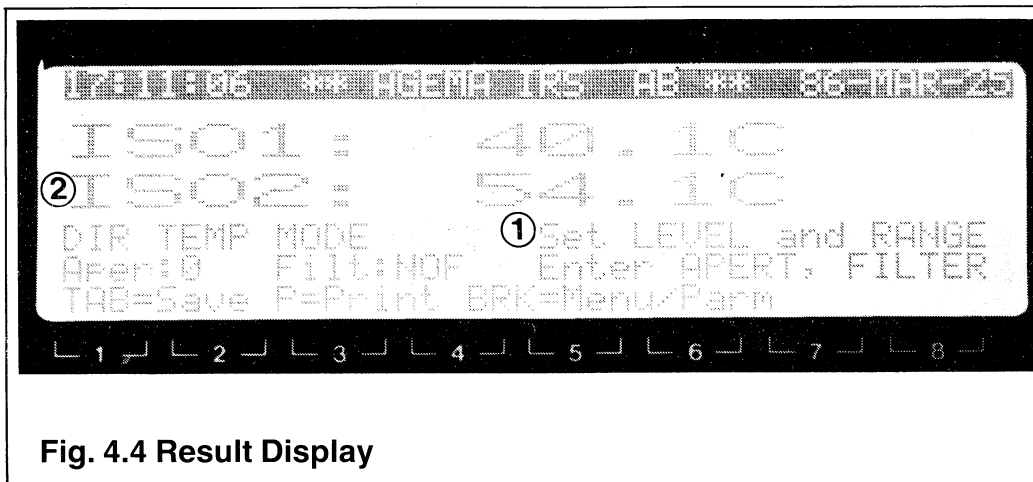

Fig. 4.4 Result Display
- (e) If parameters (but not the scanner type and serial number) are to be changed, use the arrow keys to position the cursor ② over the figure to be altered, type in the new value and confirm this by pressing ENTER. The cursor can be moved horizontally within the input fields with the ← and → keys. To move to a new input field use either the ↑ and ↓ keys, or ENTER (for downward movements).
- (f) On this display the TAB (tabulate) key can be used to switch ISO 2 on and off ③
- (g) When the necessary parameter changes have been made, the MEASURING mode selected in sub para c is entered by pressing the BRK key. A typical example of the resulting display is shown in fig. 4.4.